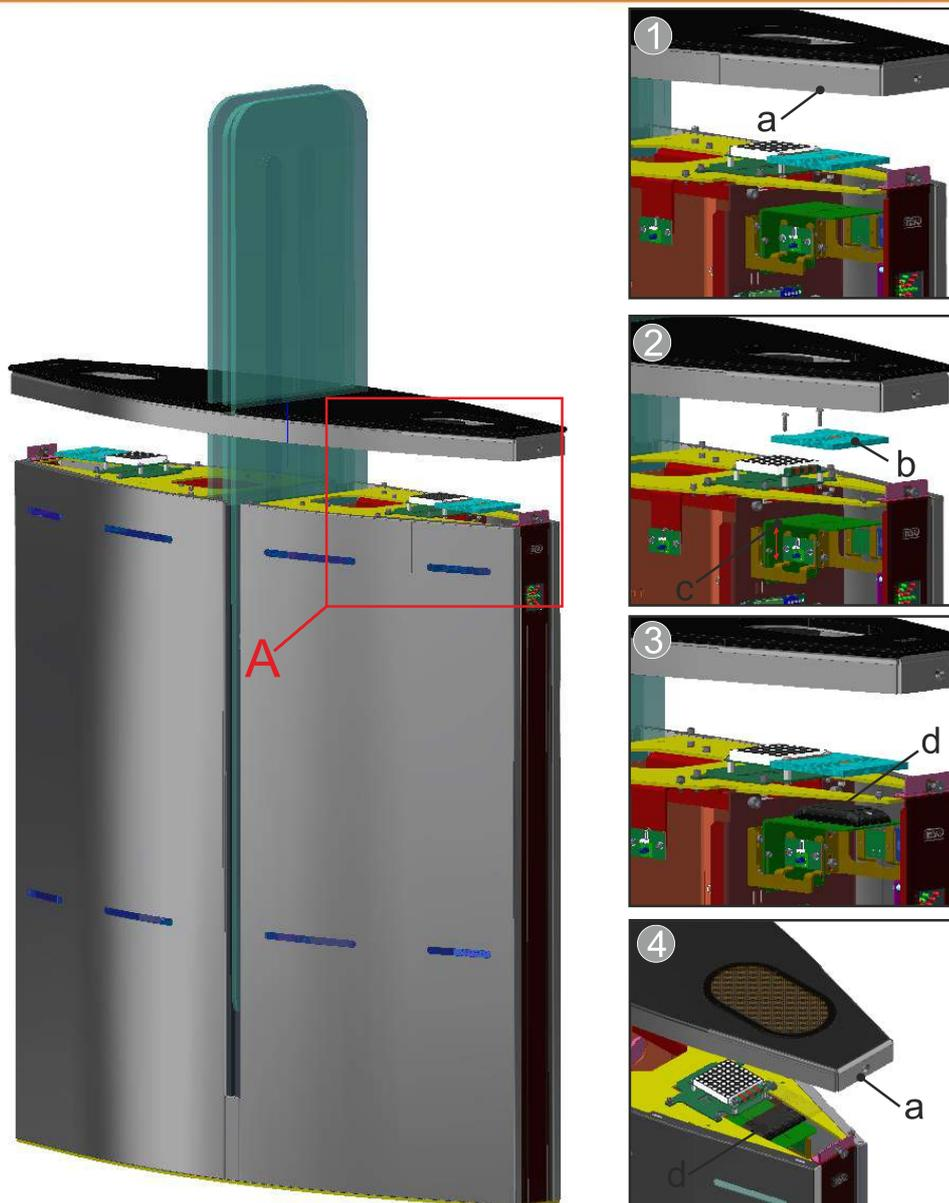

Fig.19 – Installation of card reader into the turnstile pedestrian gate «JETPAN»
13) Installation of proximity card reader* upon availability of access control system (ACS) See Fig. 19.
3 – Card reader to be connected to ACS. The maximum dimensions of the identification card reader (d) to be installed is 80x80x30 mm (See Fig. 19);